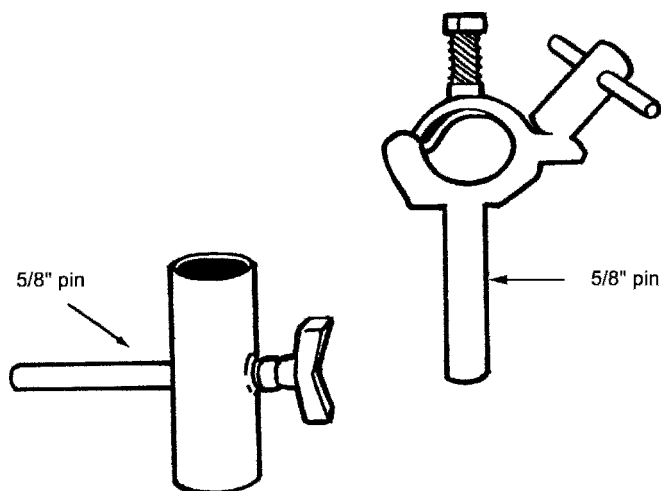

Figure 2.9 Tree branch holder.
3. The small branch holder has a 1-3/8 in. inner diameter (ID) that is fitted with a 5/8-in. pin, and the large branch holder has a 2-3/4 in. ID fitted with a forked receiver for the 4-1/2 in. grip head (Figure 2.9).